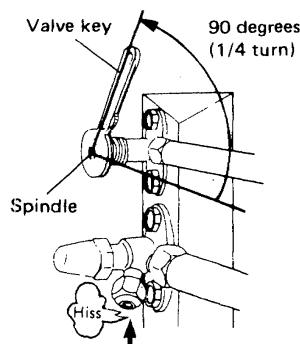

Fig. 36
- Shut the spindle of the service valve on the narrow tube: Fig. 36